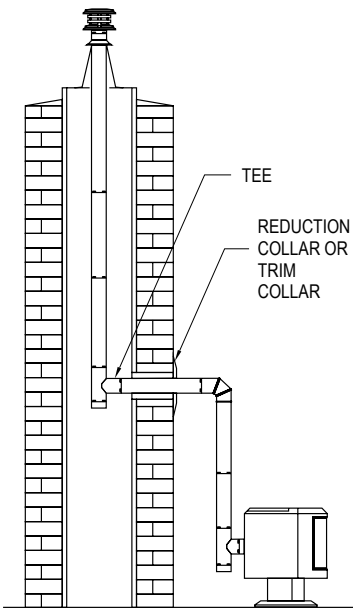

Figure 16
1. Set the appliance in its final location and mark the center of the hole where the pipe is to penetrate the masonry chimney (Figure 16). Insure that you comply with the manufacturer's
B. A Tee is installed at the bottom end of the vertical pipe (Figure 16).
C. A Reduction Collar or a Trim Collar is required to go around the pipe section that passes through the masonry to give it a finished look (Figure 16).